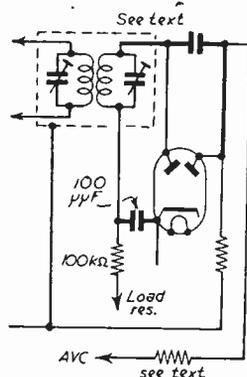

Fig. 3.—I.F. stoppers fitted in the second detector stage.
**Second Detector (Fig. 3)**
**Automatic Volume Control Stage (Fig. 3)**